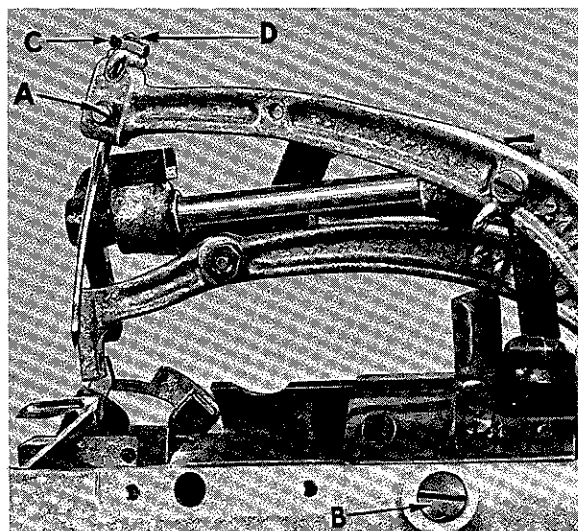

Fig. 2
This machine uses needle Type 9854 size 080. It is inserted in the needle lever with its flat directly under the set screw (A, Fig. 2). The needle should be pushed up in its holder as far as it will go.
In order to make this adjustment remove the plug screw from the front of the frame casting (B, Fig. 2). Here will be found a set screw which holds the looper shaft. Loosen this screw and move the looper shaft to right or left to secure the  $\frac{5}{32}$ " looper gauge. Re-tighten set screw.
To change the height of the needle, loosen set screw (A, Fig. 2), then loosen lock nut (C) and regulate the height adjusting screw (D) to the desired position. Re-tighten lock nut and needle set screw.